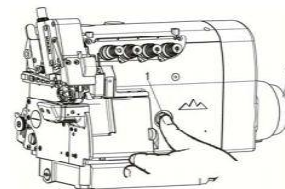

Fig.19
1. With push button 1 depressed, turn handwheel 2 so that the push button 1 goes further into the depth (图 19)